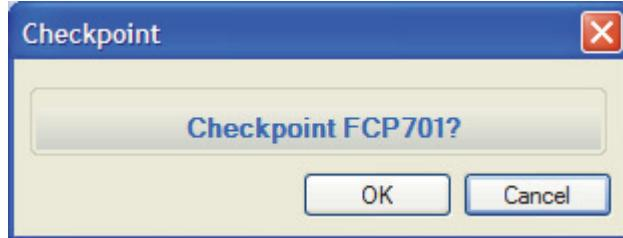

Figure 5-25. Confirmation Dialog Box for Checkpoint Action
2. Enter the reason for the checkpointing and click **OK** in the confirmation dialog box (Figure 5-25) if these actions settings are configured (see "Action Settings" on page 74).